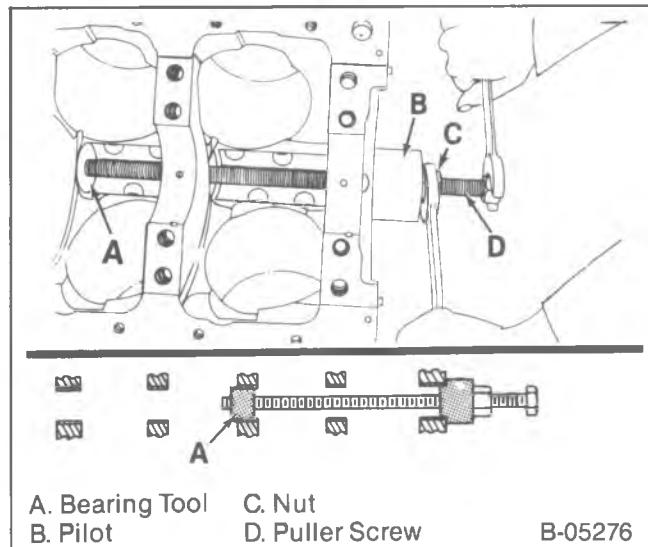

Figure 19—Removing or Installing the Inner Camshaft Bearings
Disassemble (Figures 19 and 20)
2. Inner camshaft bearings. Use J-6098-01 (figure 19).
Assemble (Figures 19, 20, and 21)
2. Inner camshaft bearing. Use tool J-6098-01 (figure 19).